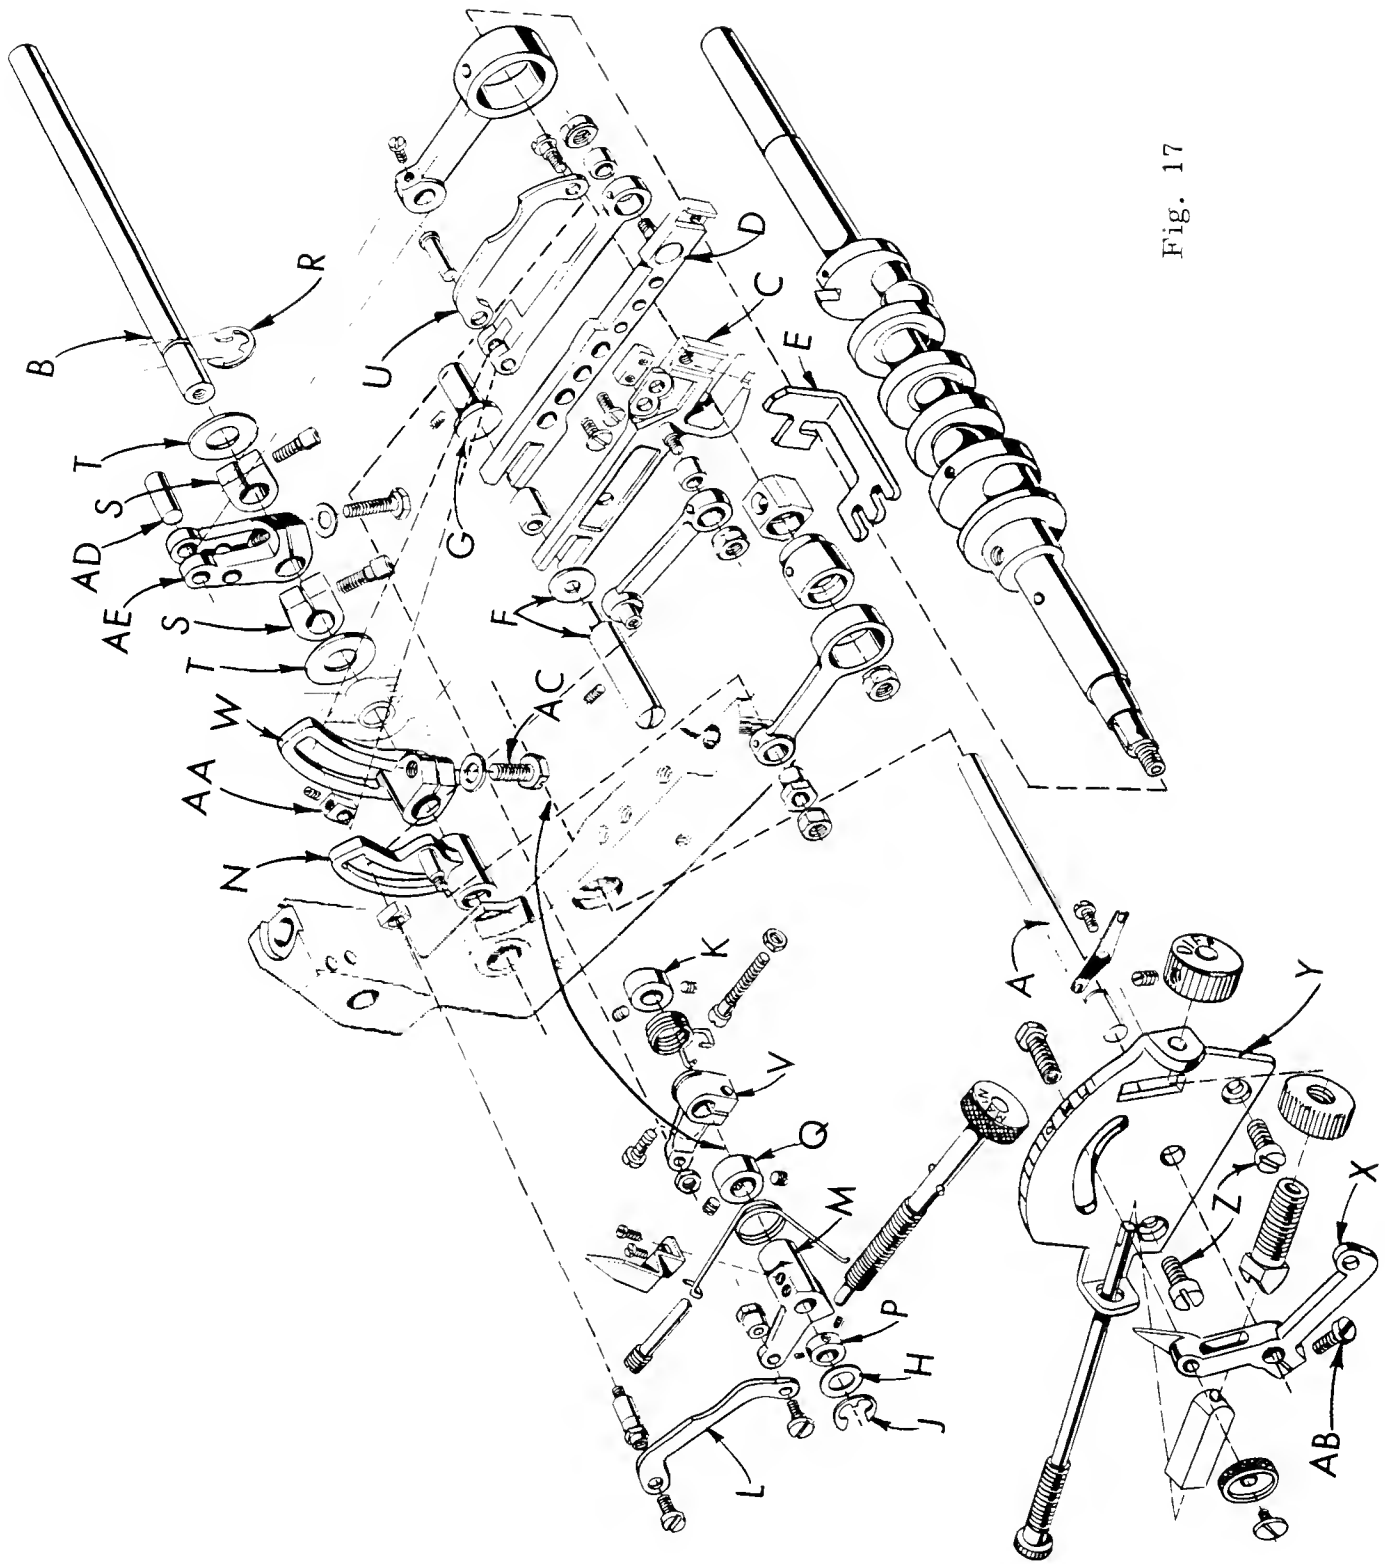

Fig. 17
1. Assemble parts as illustrated to feed control shaft (A, Fig. 17) and feed rock shaft (B); including feed bars.
2. Thrust feed bars (C and D) against differential thrust guide on bed. Thrust left side of main feed bar (C) with left feed bar thrust guide (E). Align and thrust rear of feed bars with tilt adjusting pin and washer (F) and guide pin (G).
3. Thrust the feed control shaft (A) assuring that washer (H) is against retaining ring (J) and flush against the recess in the bed casting. Collar (K) should be thrust against the bed casting and tightened securely.
4. Main feed control link (L) and main feed drive lever (M) must be in alignment with main feed rocker lever (N) to avoid binding and secured in position by collars (P and Q).
5. Feed rock shaft (B) should be positioned with the opening of the retaining ring (R) upwards and thrust against the main feed rocker lever (N). Secure shaft (B) in this position by thrusting collars (S) against thrust washers (T) against the bed casting.
6. Differential feed control link (U) and differential feed control lever (V) must be in alignment with differential feed rocker lever (W) to avoid binding. Also the differential feed rocker lever (W) must thrust against the main feed rocker lever (N). Lever (V) and rocker lever (W) can be positioned as required and secured in place by their clamp screws.
7. A bind could occur in the main feed drive lever (M), differential feed control lever (V) and differential feed indicator lever (X) if the indicator plate (Y) is not properly aligned. Oversize holes are provided in plate (Y) for its mounting screws (Z) to allow repositioning to eliminate bind.